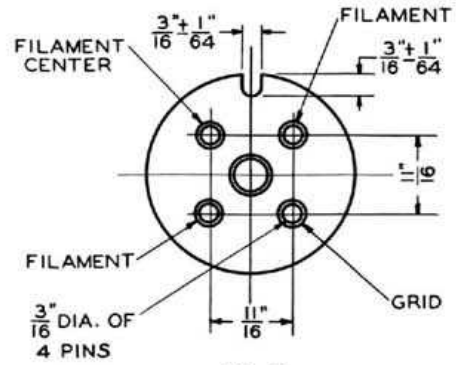

FIG. 2
**Mounting**—This tube is provided with a special large four-prong wafer type base for use in a special socket. Some types of standard four-prong sockets may be easily altered for use with this tube. The filament, grid and filament center tap terminals are connected to the base as shown in Figure 2. The plate terminal is a cap at the top of the envelope. The tube must always be mounted with the axis of the filament vertical, either in the upright or inverted positions.